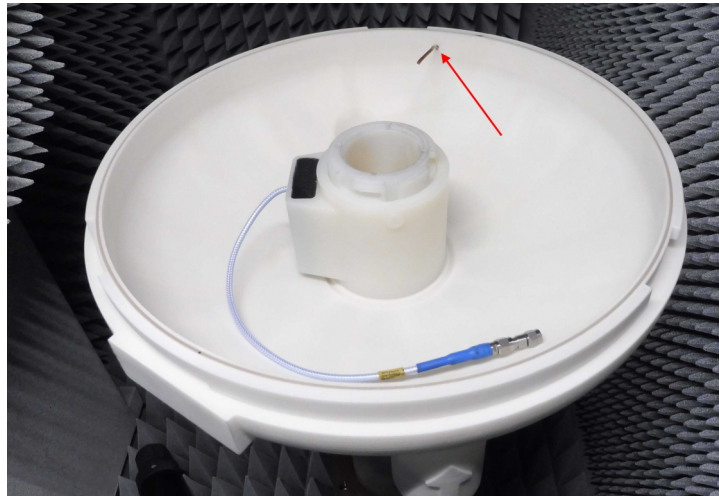

Figure 3-4: Position of temperature sensor K in the OTA Bubble
5. Conduct another temperature sensor through the opening in the bottom shell all the way up into the OTA Bubble (red arrow in Figure 3-4).